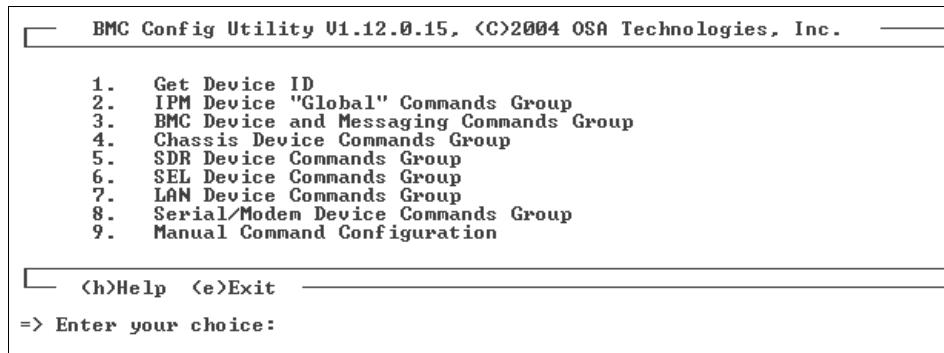

Figure 2-13 BMC_cfg main menu
2. At the DOS prompt, enter `bmc_cfg`. This will display the main menu screen, Figure 2-13 on page 24.